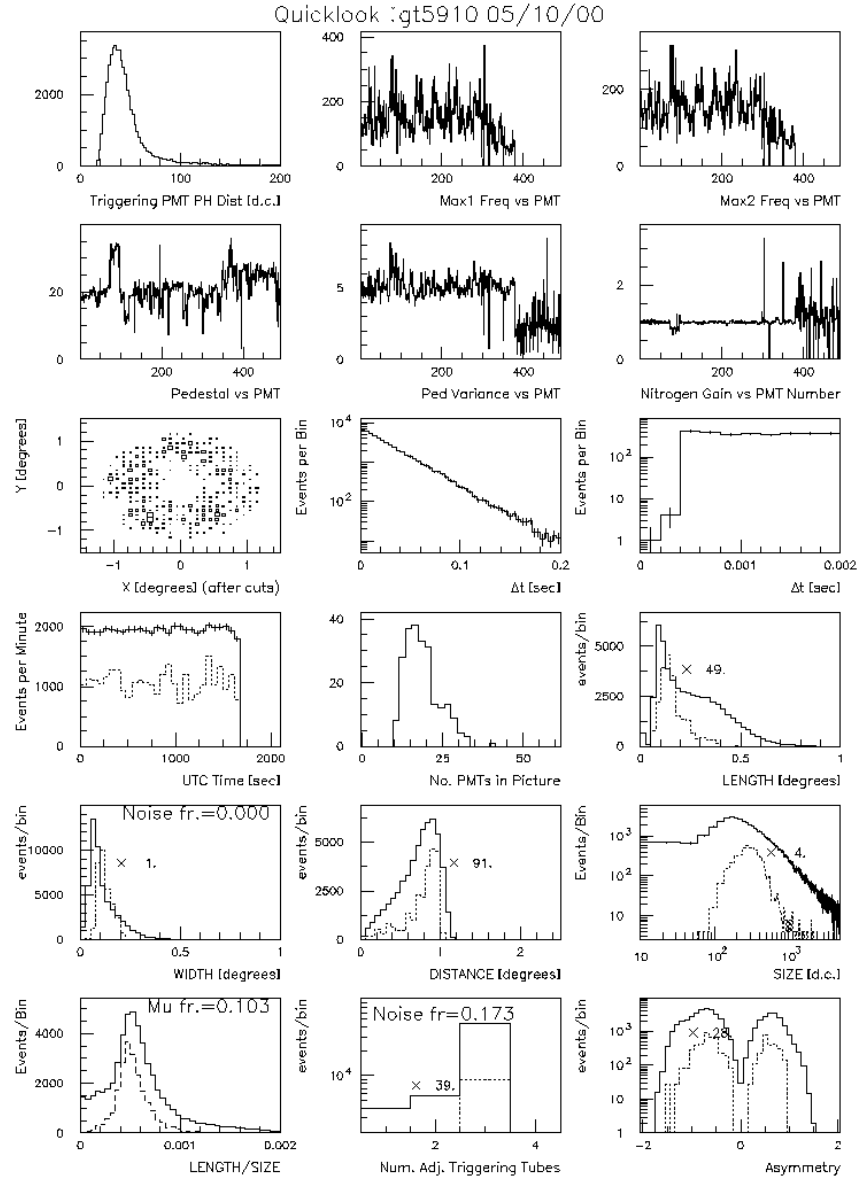

Figure 3.2: gt5910\_q1.ps – an example of the output from quicklook.kumac.
**gtnnnn\_ql.ps** This is the first plot you will see in the quicklook. It is created by the kumac file quicklook.kumac using the ntuple containing the parameter distributions. An example of this plot is shown in Figure 3.2 below.